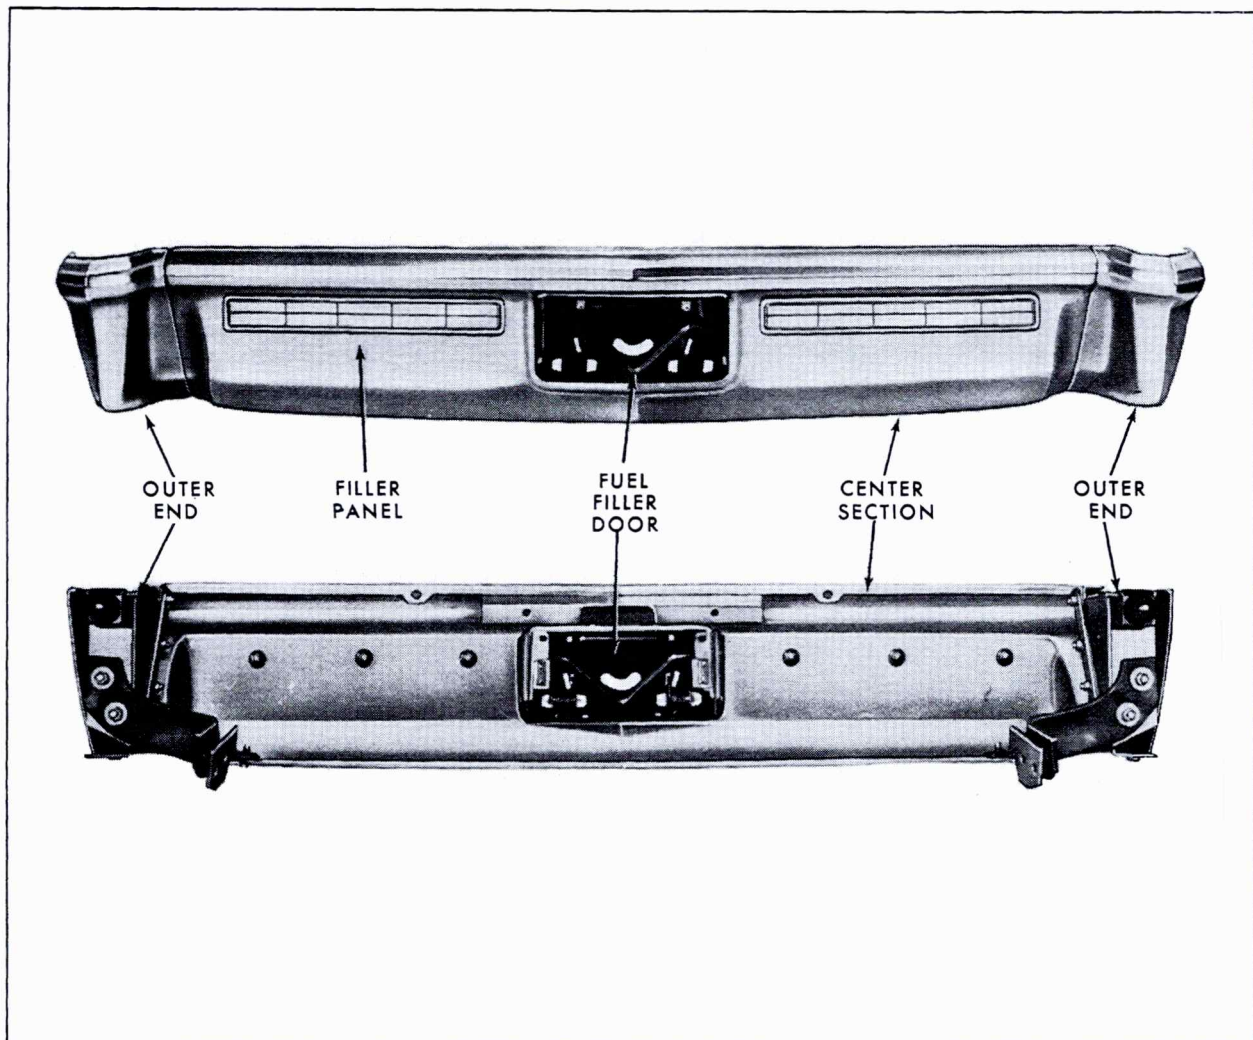

Fig. 14-3 Rear Bumper - Front and Rear View
The rear bumper assembly, Fig. 14-3, consists of the following sections that are bolted together: a one-piece center section with license guard; fuel filler door, which also serves as license holder; and wrap-around outer ends.
a. Removal (Fig. 14-3)
b. Installation (Fig. 14-3)
3. An overall alignment of rear bumper assembly is obtained by using any one or all of the following adjustment combinations (Fig. 14-3 and 14-4).